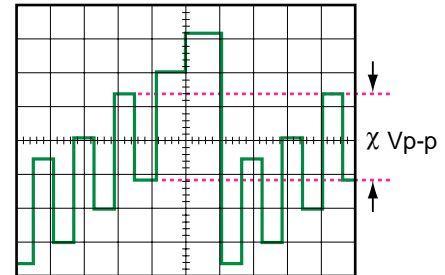

Fig. 5-1
- Set the **BRIGHT** Item to the minimum position (0).
- Set the **CONTRAST** Item to the center position (32).
- Set the **PICTURE** Item to the minimum position (0).
- Set the **COLOUR** Item to the enter position (32).
- Adjust **SUB COLOUR** so that the Colour Output signal becomes 29 ± 1 Vp-p for WV-CK1420/B, 36 ± 1 Vp-p for WV-CK1420/G, 32 ± 1 Vp-p for WV-CK2020/B and 38 ± 1 Vp-p for WV-CK2020/G as shown in Fig. 5-1.